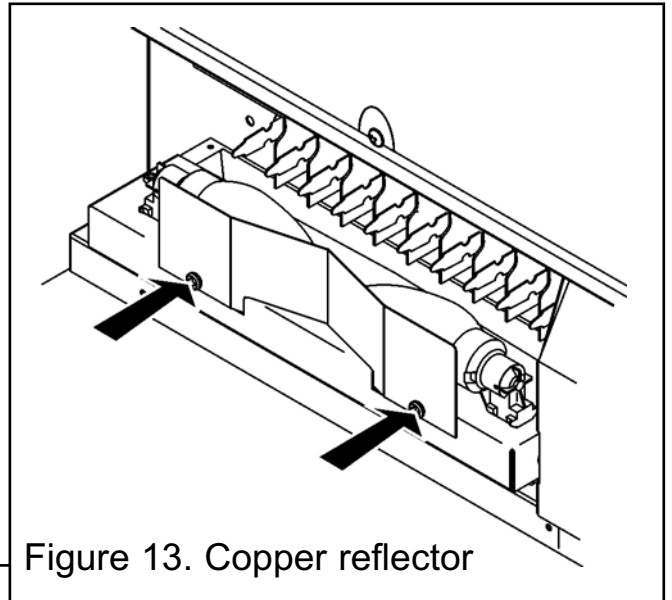

Figure 13. Copper reflector
2. Unscrew and remove the copper reflector plate (See figure 13).